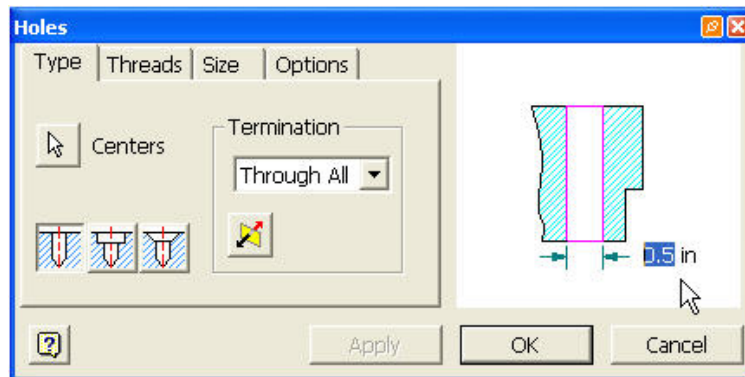

Figure 8
- Edit the Hole termination and diameter as shown in Figure 8.